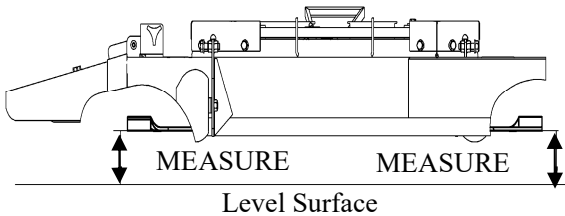

Fig. 16
- Position left blade in the side to side position and measure from the outside blade tip to the level surface (Refer to Fig. 16).